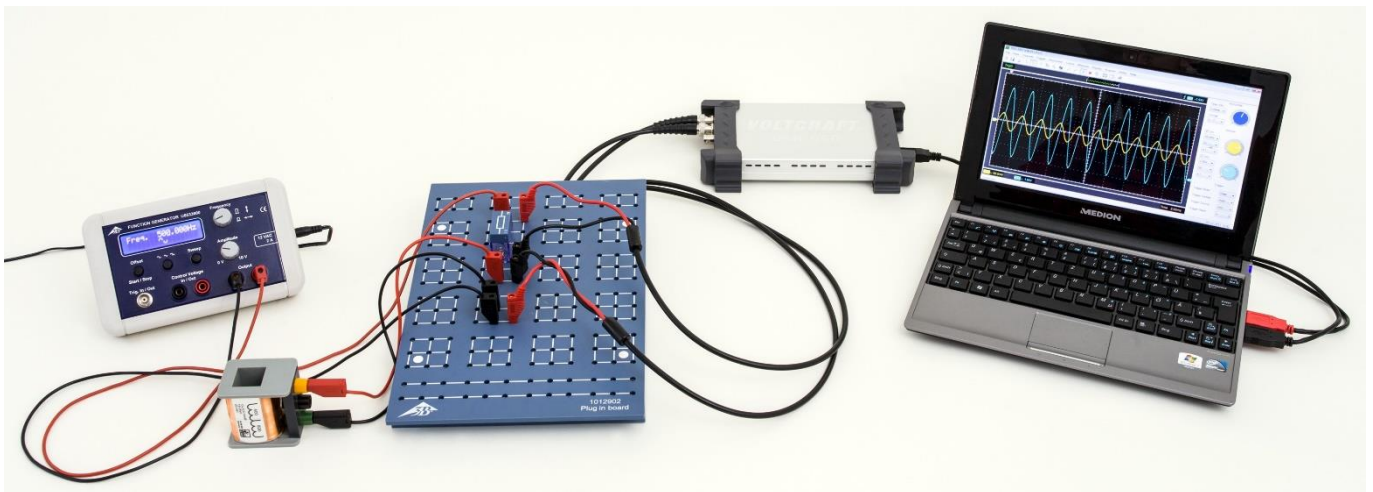

Fig. 1: Experiment set-up
- Set up the measuring equipment (Fig. 1) as shown in the circuit diagram (Fig. 2) with resistor $R=10\ \Omega$ and a 1200-turn coil ($L = 23\ \text{mH}$, $R_L = 19\ \Omega$).